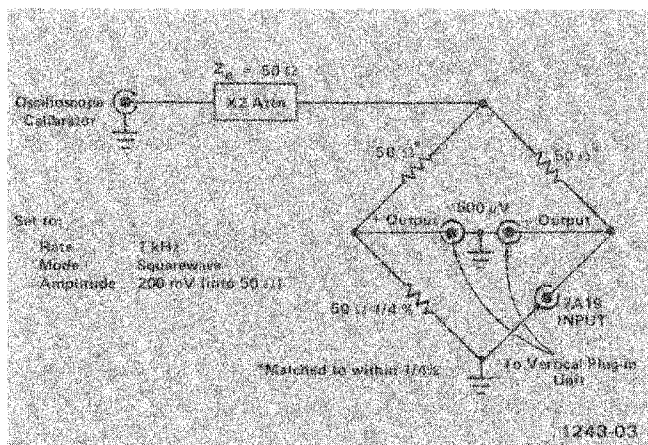

Fig. 5-2. Test circuit for adjusting input Resistance.
b. Connect test circuit as shown in Fig. 5-2.